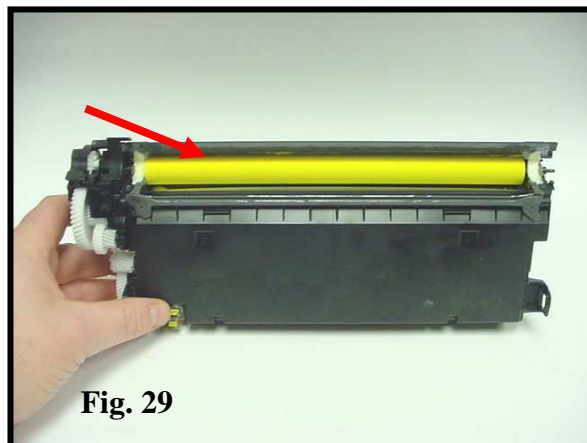

Fig. 29
29. Clean the toner hopper of all remaining toner thoroughly. Use compressed air or vacuum to clean the foam roller in the toner hopper thoroughly (Fig. 29). Fill the hopper through the developer roller opening with the correct toner and gram load. Seal the hopper if necessary.